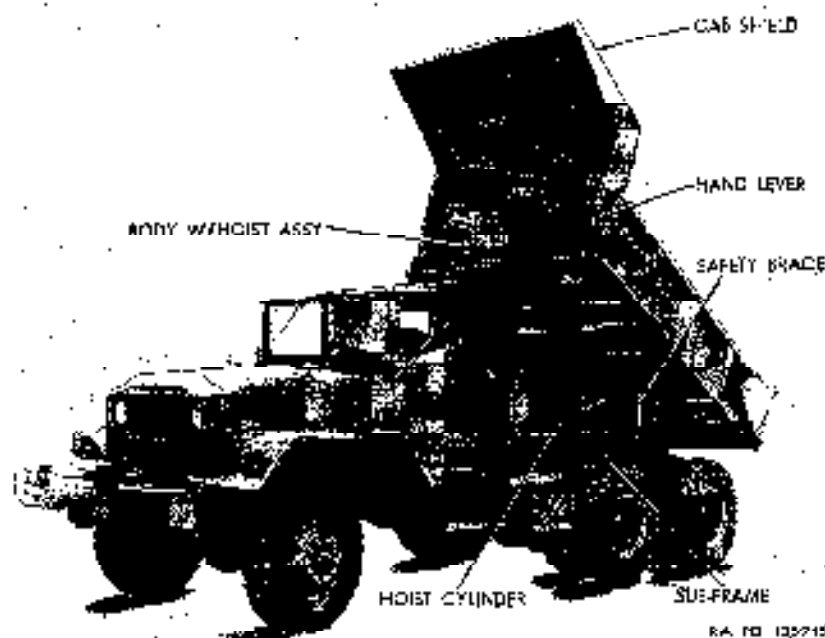

Figure 84. Dump truck M51 with body in raised position.
- (2) *Three-part line (fig. 84).* To rig a three-part line, pass the crane hoist cable over one of the boom sheaves, around the crane block sheave, over the second boom sheave, and secure the cable end to the crane block with the cable anchor pin.
- (1) *General.* The hydraulically powered crane mounted on the rear of the reactor wrecker truck M246 has a three position extendable boom (from 11½ feet, to 18 feet to 26 feet), which is capable of 360° rotation and approximately 45° elevation. Maximum allowable lifting loads are shown on the safe load data plate (fig. 84) located at the crane operator's station.
pivot post. A removable stop plate (fig. 84) is normally used to limit the amount of boom rotation to 270°. A lock pin (fig. 84), which can be inserted through a hole in the stop plate and into a hole in the crane base plate, is provided for locking the crane for transporting.